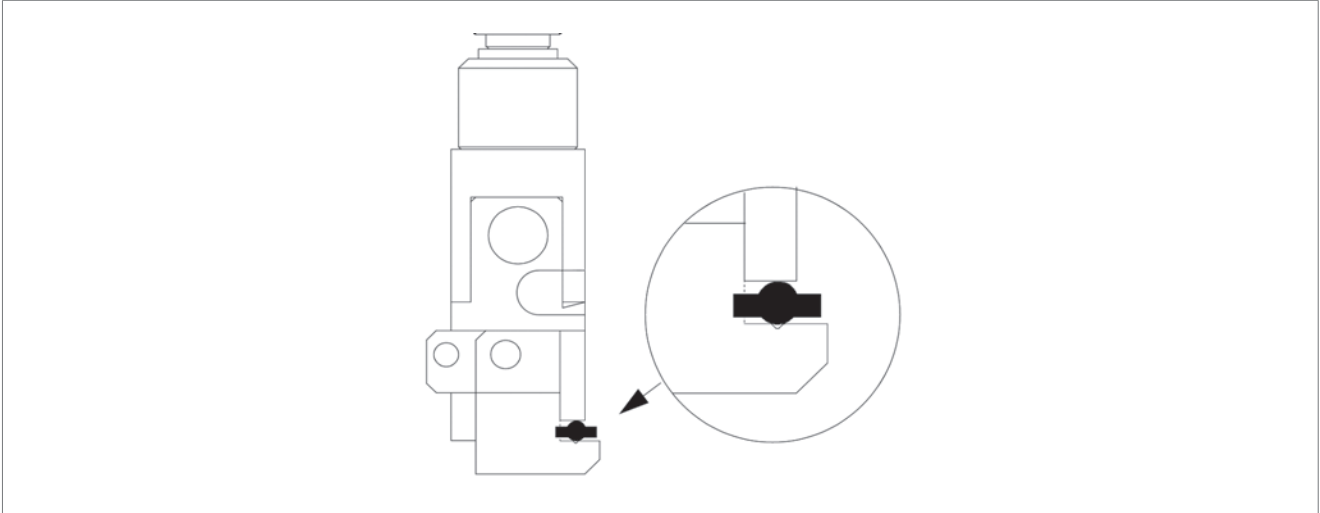

Fig. 46
- the key stem must be centred in the small "V" seat of the lower plan (Fig. 46).